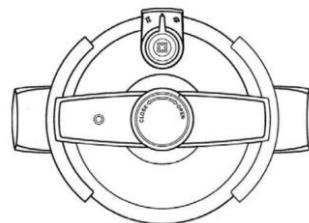

Fig.10
**① Natural cold.** When heating time is up, turn off the fire and leave it for a while waiting for the pressure reduced. When the indicator fell down, the cooking is over. Turn the knob to the position as per picture of Fig. 10, then take off the lid.